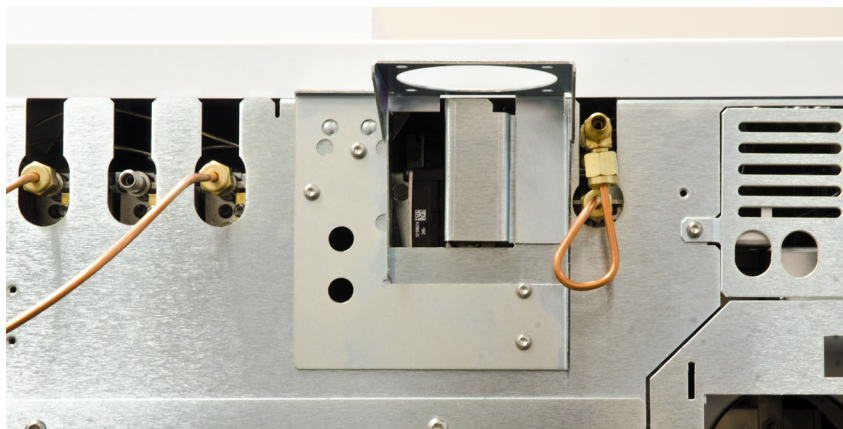

Figure 13. Bracket 5003-1356 installed to 7890 GC
- Using a T-10 Torx driver, install the four T-10 screws to secure the bracket to the GC. See **Figure 13**.